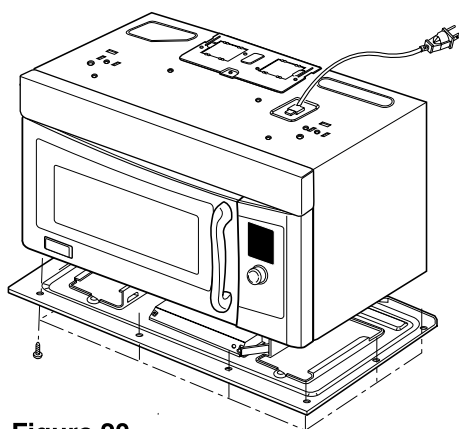

Figure 20
- (3) Remove the base plate by removing 8 screws securing it to the oven cavity. (Figure 20)
- (4) Disconnect the leadwire from the turntable motor terminals.